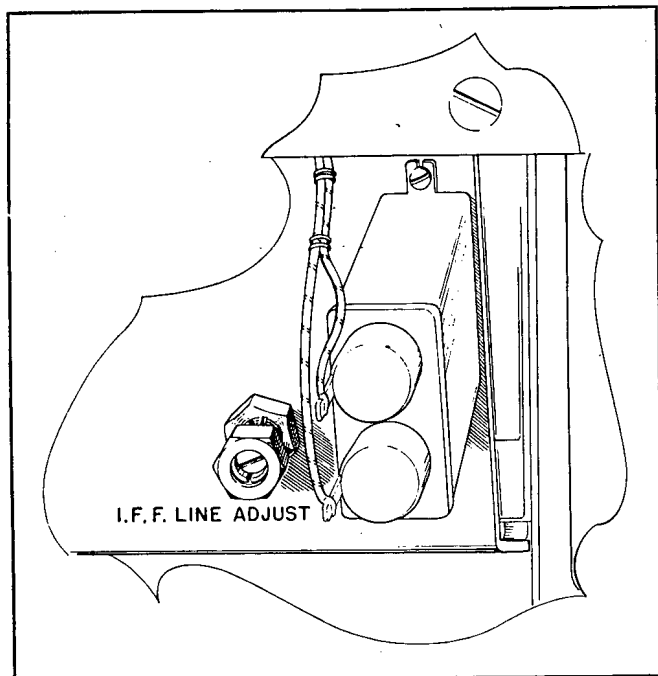

Figure 3-52. IFF Line Adjustment Control in Range Scope
(40) If the radar and IFF sweep lines are not sufficiently separated or if the IFF sweep is above the radar sweep, place the CHALLENGE switch shown in Fig. 3-42 in its ON position. The Range Scope chassis must be pulled two-thirds of the way out of the chassis for the remainder of the alignment. Adjust the screwdriver operated IFF LINE ADJUST control R-6026 until the IFF sweep is properly located. This control is on the rear of the righthand deck and is shown in Fig. 3-52.